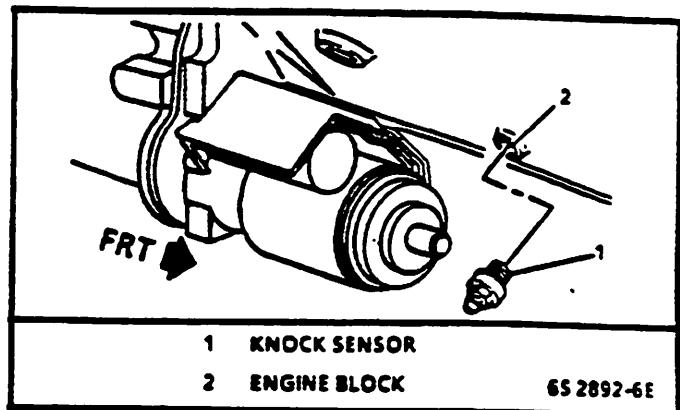

Figure 7 - Knock Sensor Location
KNOCK SENSORS (KS) Figures 7 and 8